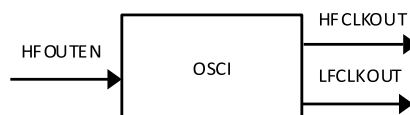

Figure 3.14. CrossLinkPlus OSCI Component Symbol
- Figure 3.14, Table 3.6, and Table 3.7 below show the OSCI definitions